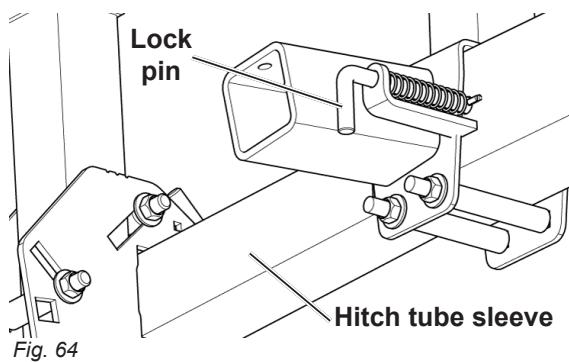
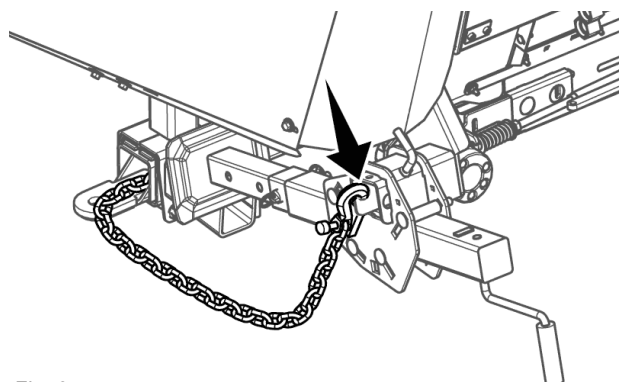

Fig. 64
Fig. 65
4. Pull the Lock Pin on the hitch tube and slide the tube into the storage sleeve. Refer to Fig. 64. Attach the hitch safety chain to the storage stub as shown in Fig. 65.